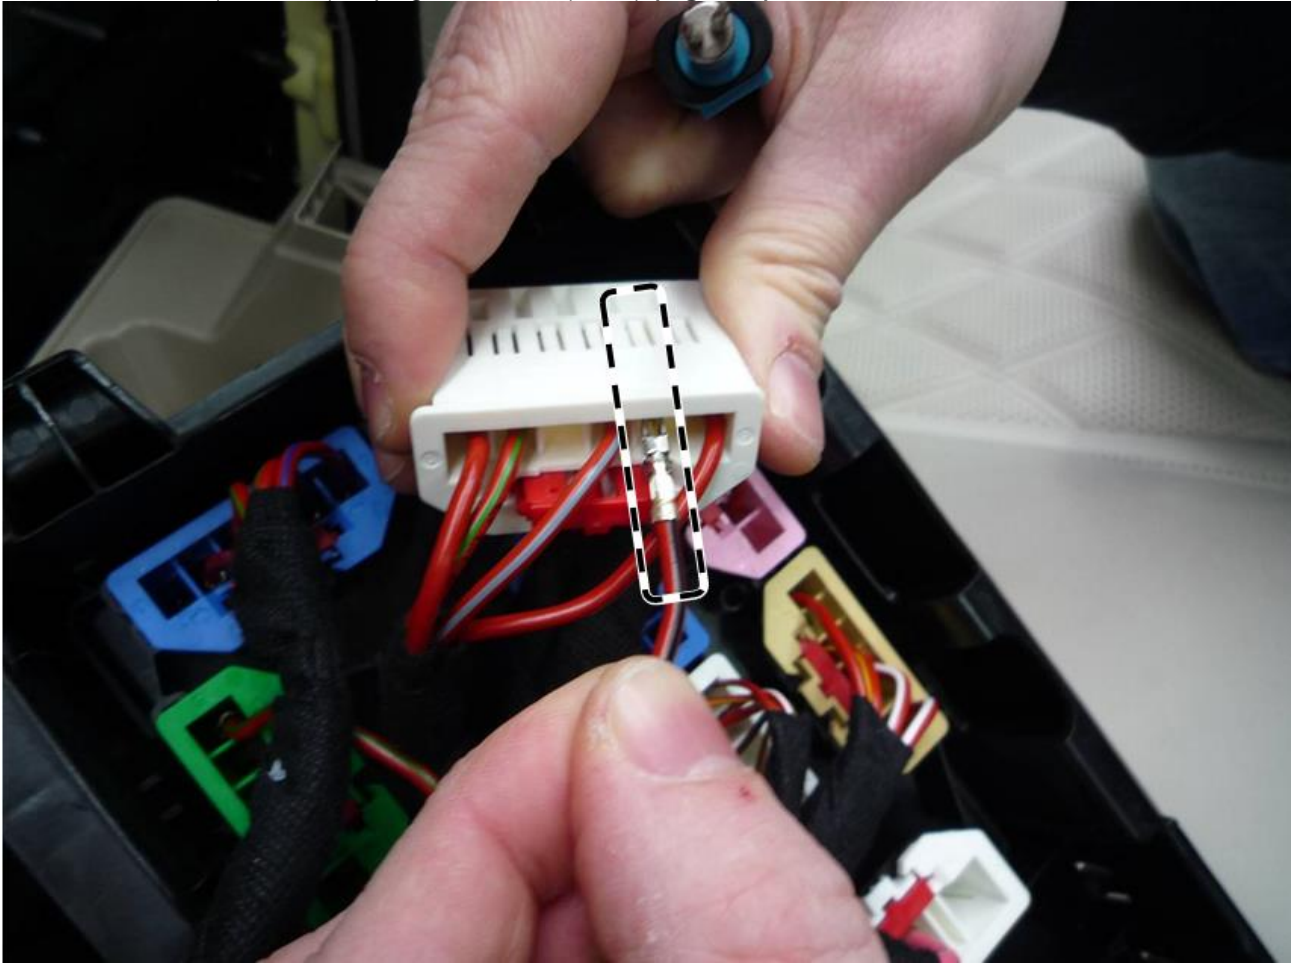

Figure 6
8. Relocate line (red/black) to plug S5 in **Pin5** (white) (**Figure 6**).